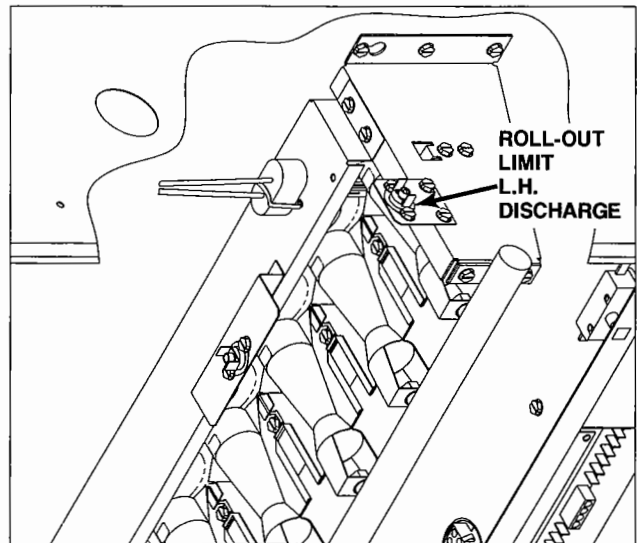

Fig. 13 — Horizontal Left Roll-Out Protection
Figure 12 shows the flame Roll-Out Device as shipped for right discharge installations. For left discharge installations, relocate the device and mounting bracket as shown in Figure 13.
3. Remove the wires from the secondary roll-out limit, and move the roll-out bracket and device to the upper manifold bracket and attach with screws. See Fig. 13.